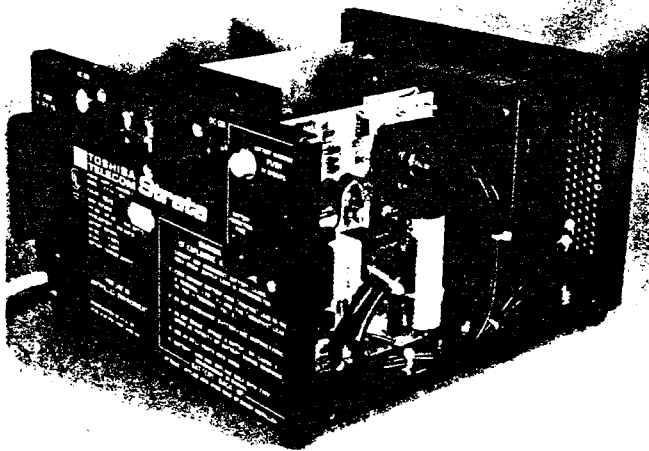

FIGURE 11 — PBBU IN PLACE
02.22 Unwrap the PBBU. Remove and save the screw located in the mounting bracket (Figure 11).
02.23 Slip the PBBU fuse holder and battery override button through their respective ports in the control panel (Figure 11). The PBBU mounting bracket should be flush against the rear of the control panel. The harness should flow around the PBBU PCB, with no wires beneath it.
02.25 Use the previously removed screw and secure the mounting bracket to the control panel (Figure 11).
02.28 Depress the battery override button (Figure 11). If it catches and stays in, press it again to cause it to release and protrude out of the control panel. The button must be out for the EPSA to operate normally.